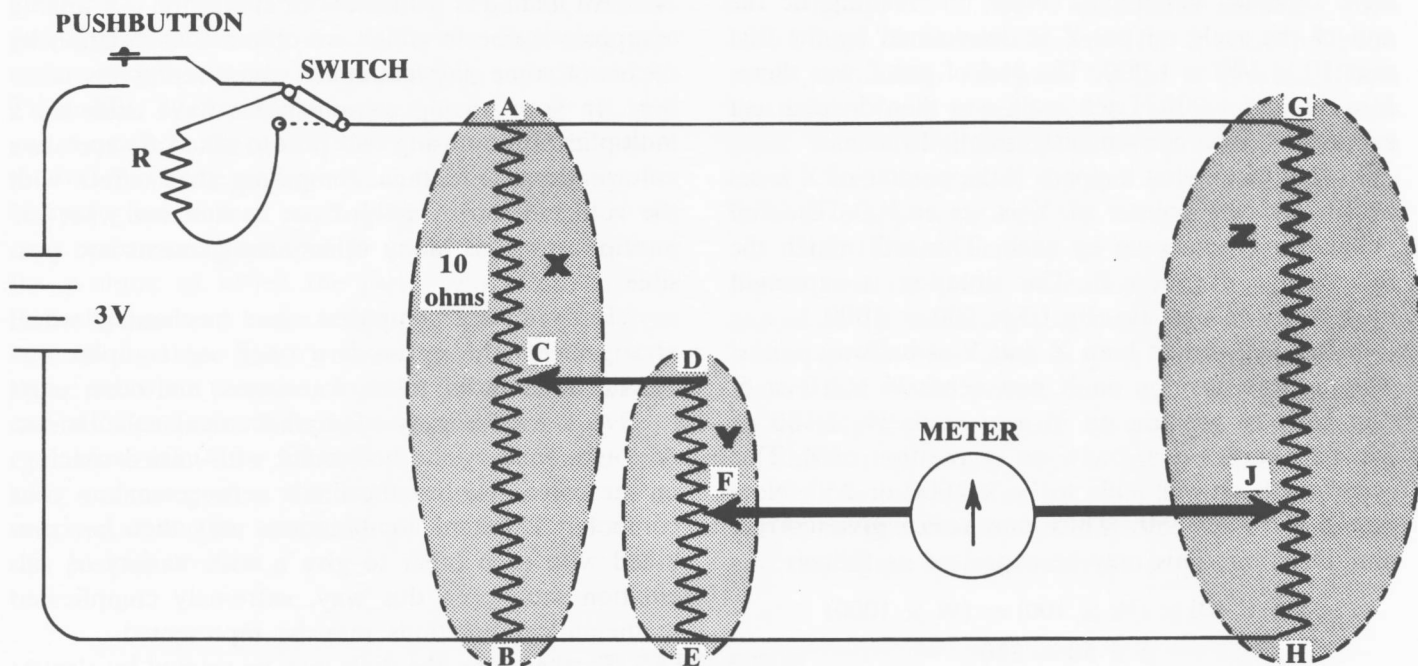
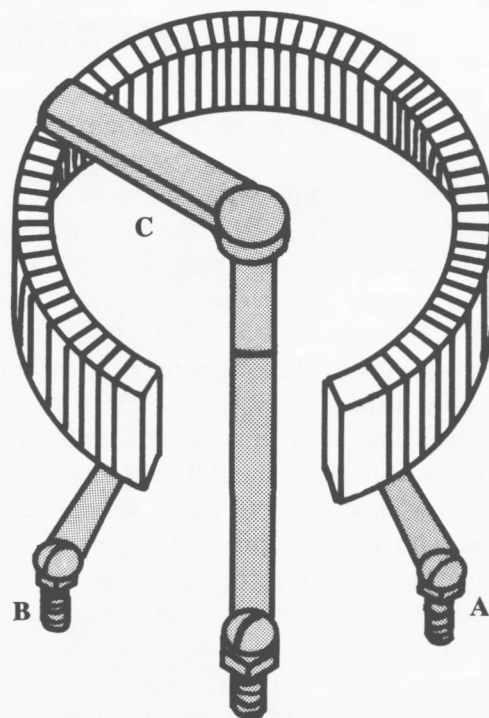

Fig. 24
Fig. 25
The electric circuit of your analog computer is shown in Fig. 24. The dotted oval marked X represents potentiometer X. The three terminals on the pot are indicated by A, B, and C. A and B, the two outer terminals, are the ends of a long coil of resistance wire. The coil and the end terminals are shown in Fig. 25. A sliding arm (C in Figs. 24 and 25) moves along the entire length of the resistance when the shaft is rotated. As it moves from B toward A, it includes a
Potentiometer Y is shown in Fig. 24 with its three terminals D, E, and F. It is shown smaller than pot X merely for clarity in the drawing and not because it really is that way. Potentiometer Z is shown with its three terminals G, H, and J.
Suppose that the position of the rotating part of pot X (C in Fig. 24) is at the halfway point and that the position of the rotating part (F) of pot Y is also at its halfway mark. Terminal C of pot X then takes off half of the voltage drop from A to B. Then terminal F of pot Y takes off half of that. The net result is that the final voltage drop from F to E is $\frac{1}{2} \times \frac{1}{2}$ or $\frac{1}{4}$ of the original amount.
Suppose we set the rotation point of pot Z (J in Fig. 24) at a fourth of the way from H to G. The voltage drop from J to H will be a fourth that from G to H.
Finally, what happens if we move the pointers of X and Y to zero? In that case, there is no voltage drop from F to E (Fig. 24). Pointer J on pot Z must be moved to the zero position to produce the same voltage drop, as indicated by the meter. We now have $0 \times 0 = 0$. Thus, all positions of Z give multiplications of X and Y when the meter reads zero.